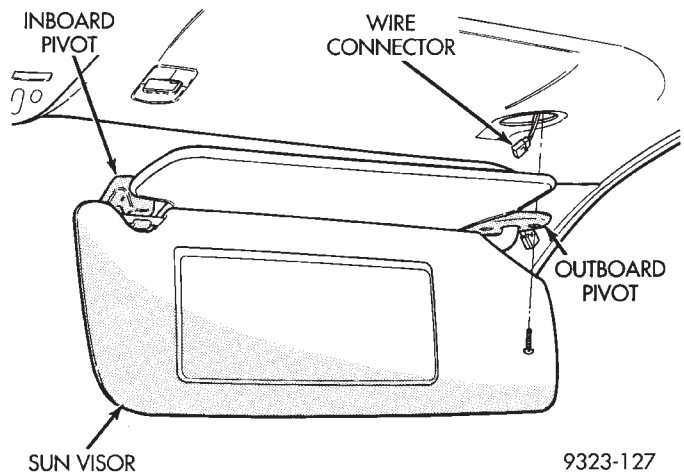

Fig. 69 Sun Visor
- (1) Remove screw holding inboard visor pivot to windshield header (Fig. 69).
- (2) Remove screws holding outboard visor pivot base to windshield header.
- (3) Separate visor from header.
- (4) Disconnect visor vanity lamp and universal garage door opener wire connector, if equipped.